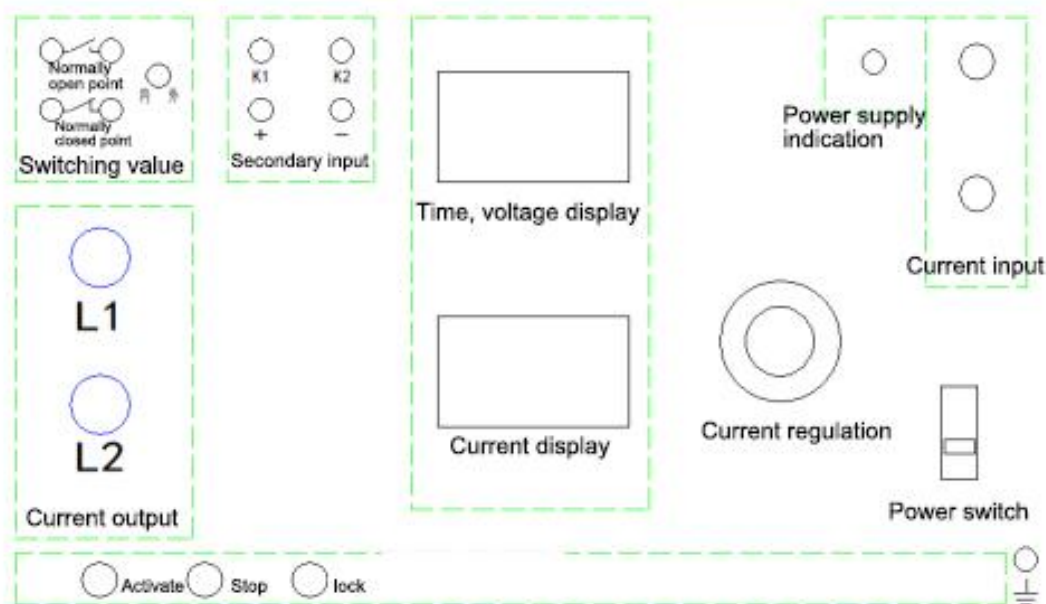

Figure 2
- 5, time display: time detection: If the overload current is 100A, first turn out 10A, the voltage of the displayed instrument, press the "stop" switch, disconnect the test, and then start, adjust the voltage to 10 times the voltage, connect the test, press the "start" button again, the contact action, the output stops, at this time the value on the "time display" is the operation time of the tested equipment (experimental wiring is shown in Figure 2).
4, time detection: If the overload current is 100A, after 100A, press the "stop" switch, press the "reset" button, press the "start" button again, the contact action, the output stops, at this time the value on the "time display" is the operation time of the tested device (experimental wiring is shown in Figure 2).